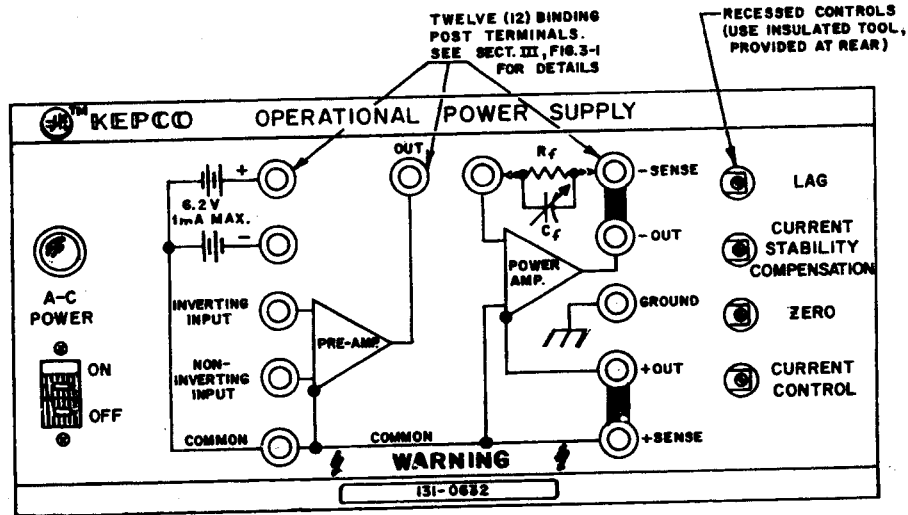
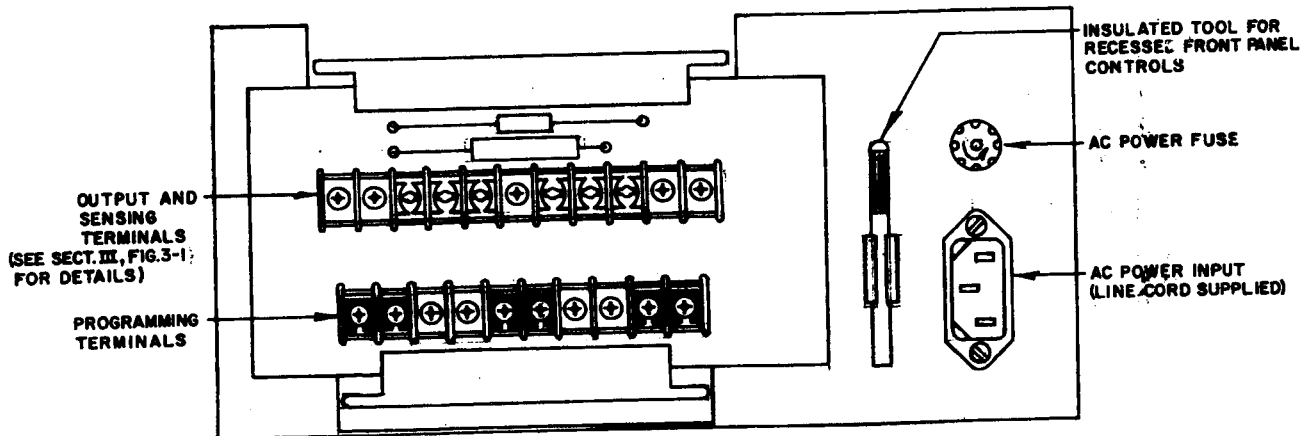

FIG. 2-1 FRONT PANEL, OPS GROUP IX MODELS.
FIG. 2-2 REAR TERMINATIONS, OPS GROUP IX MODELS.
- a) FRONT PANEL: Refer to FIG. 2-1.
- b) REAR: Refer to FIG. 2-2.
- 2-12 A simple operating check, after unpacking and before permanent installation, is advisable to ascertain whether the OPS has suffered damage resulting from shipment. Refer to FIG. 2-1 and FIG. 2-2 for the location of the operating controls and the rear terminals.